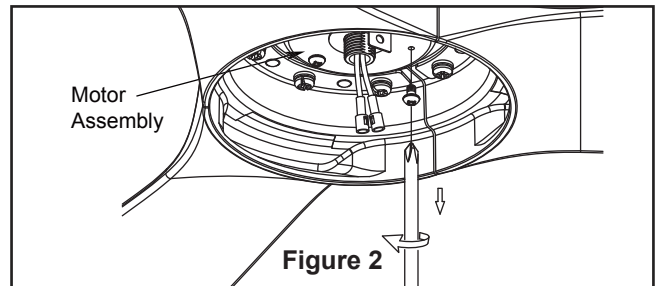

Figure 2
2. Remove one of the three screws in the support bracket at the bottom of the motor assembly and retain the screw for later and slightly loosen the remaining two screws. (Figure 2)
2. Restore electrical power to the outlet box by turning the electricity on at the main fuse box. (Figure 2)